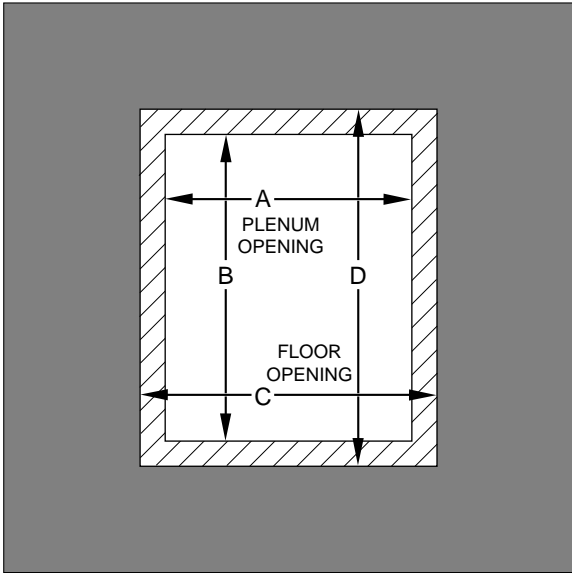

Fig. 11—Floor and Plenum Opening Dimensions
2. Construct hole in floor per Table 3 and Fig. 11.
3. Construct plenum to dimensions specified in Table 3 and Fig. 11.